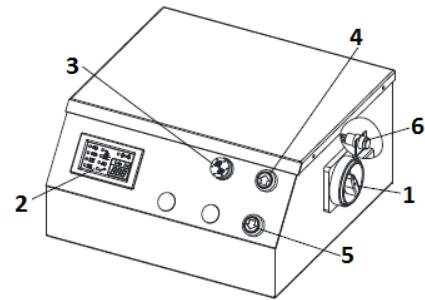
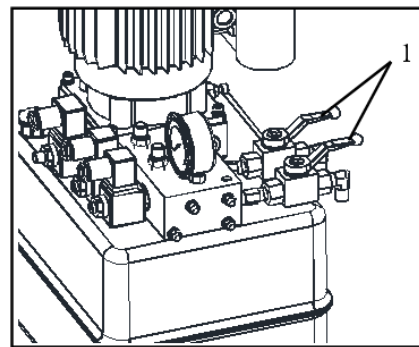

Fig. 6
Fig. 7
3. Turn the main power switch (1, fig.6) to I (ON).
4. Now open both level valves (1, fig.7).
5. Now press the LIFT-button (4, fig.6) for approximately 30 seconds to fill the cylinders with oil.
6. Now close both level valves (1, fig.7).
7. Now press the LIFT-button (4, fig.7) together with the IGNORE-button (6, fig.6) until lift is completely raised.
8. Now open both level valves (1, fig.7) and press the LOWER-button (5, fig.7) together with the IGNORE-button (6, fig.6) to lower the lift completely.
1. Open the level crane (1, fig.7) of the lower platform.
2. Now press the LIFT-button (4, fig.6) and IGNORE-button (6, fig.6) at the same time until both platforms are at the same height.